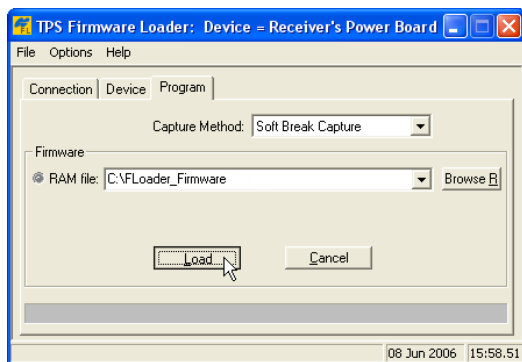

Figure 5-22. Program Tab Settings
- Click the **Program** tab, and set the *Capture Method* to “Soft Break Capture” (recommended) (Figure 5-22).
- Browse for and select the Power board’s RAM file (Figure 5-22).